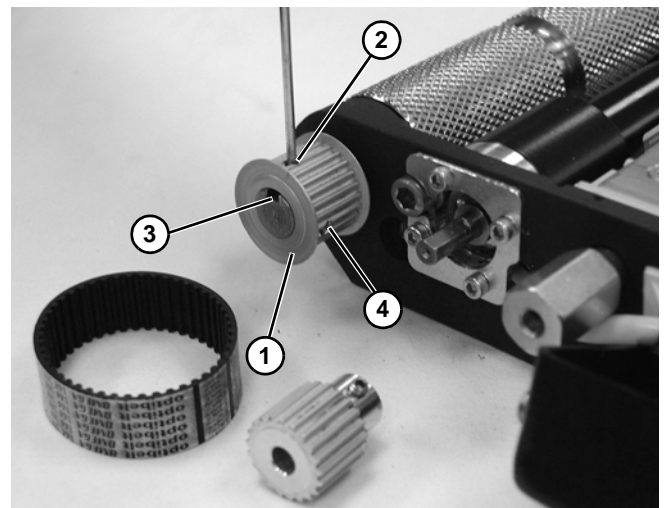

Figure 61
2. Install driven pulley (**Figure 61, item 1**) onto conveyor shaft until flush with spindle end. Line up longer set screw (**Figure 61, item 2**) on pulley over keyway (**Figure 61, item 3**) of shaft. Tighten set screw (**Figure 61, item 2**) and set screw (**Figure 61, item 4**) to 18 in-lb (7 Nm).